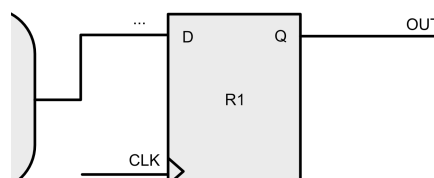

Figure 5
4. Give more thought on where the condition  $t_1$  taught in class fits in the circuit in Figure 5, i.e: which components have to conform to  $t_1$ ?4